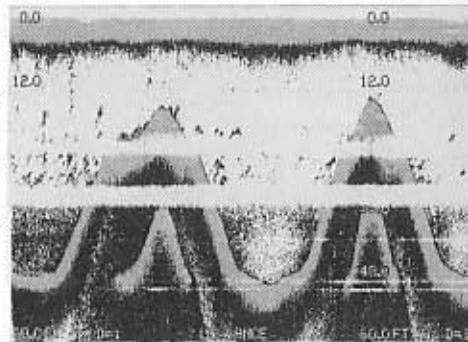

FIGURE 32
7. After installing, if the stylus won't print all the way down the paper as shown in Figure 32, bend the right leg down so that more pressure is exerted against the stainless steel plate. If it still does not print all the way, bend the left leg down more, but not so far that it digs into the paper.